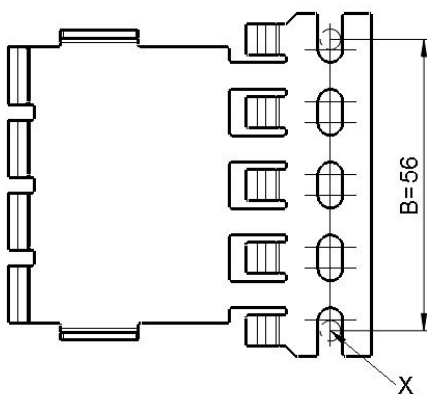
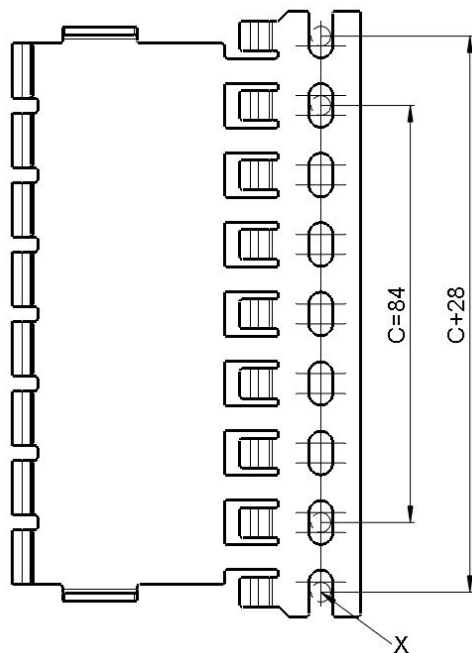

Fig. 5: Installation plate, 4 pole
Fig. 7: Installation plate, 8 pole
- b) Apply the hole spacing of the mounting points on the installation plate for the end caps used (see Fig. 5 to Fig. 7):